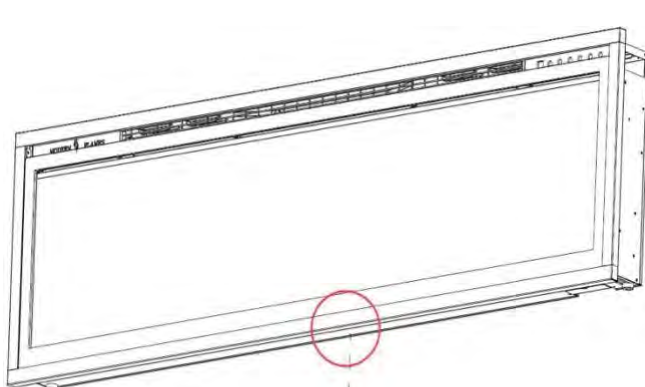

Fig 3-1
A. Remove the silver screw at the bottom of the appliance. (**Fig 3-1**). Set the screw aside.